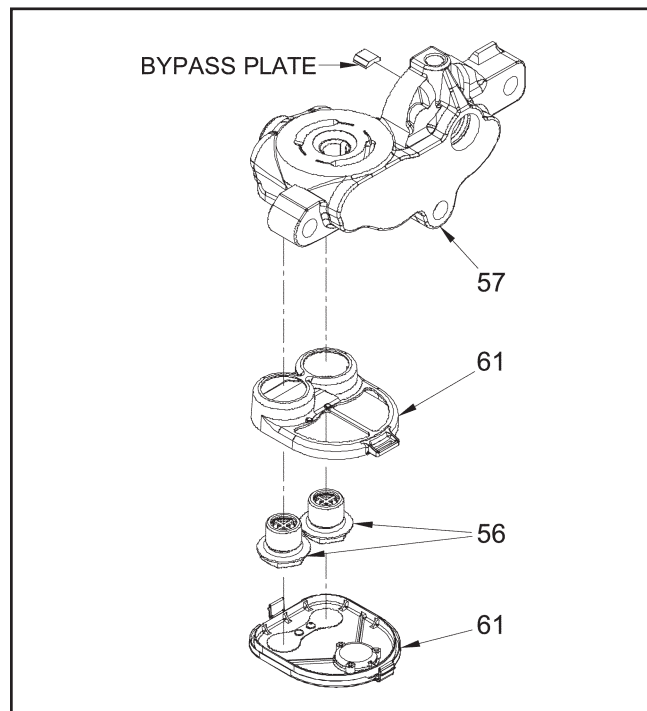

Figure 18.
3. (See Figure 18) Install the new filter base (61) onto the center section (57).
4. It will be necessary to clean the check plugs prior to re-assembly. Install the check plugs (56), in their correct location, into the center section (57). Tighten the check plugs according to Table 6.
5. Align the tabs on the filter cover with the slots in the filter base and carefully press the cover onto the base until the tabs snap into place. Insure the bypass plate (Figure 18) is located properly in the center section.